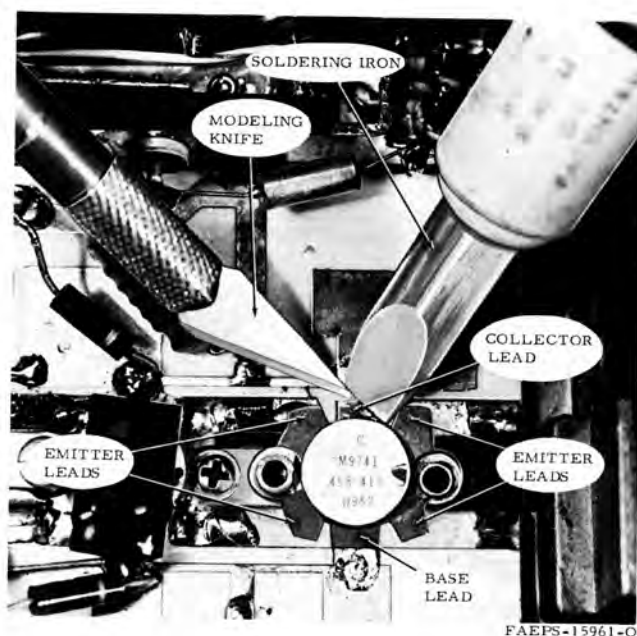

**Figure 8.**
Step 5. Carefully lift each of the four rf power transistor emitter leads. Use a modeling knife blade or long-nosed pliers to lift each emitter lead while applying heat, as shown in Figure 8. Be sure the solder has melted before attempting to lift the lead, but avoid prolonged or excessive heating.